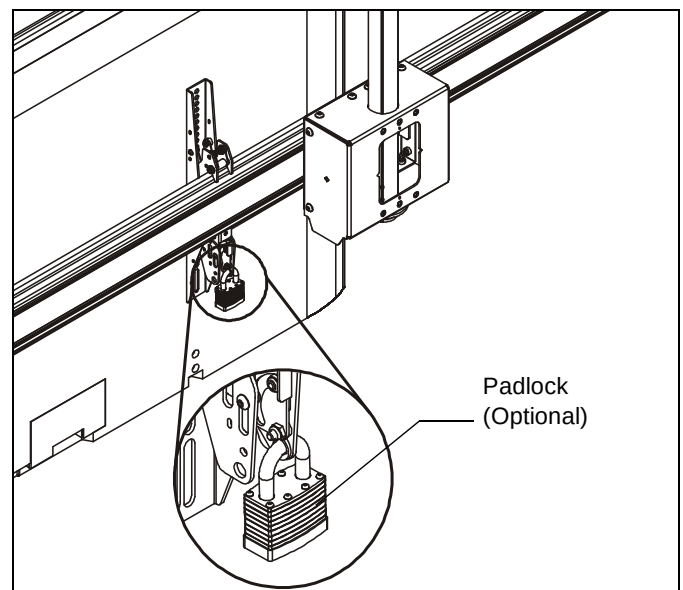

Figure 13
1. **OPTIONAL:** Add padlock (not included) to each interface bracket to lock display to ceiling mount. (See Figure 13)